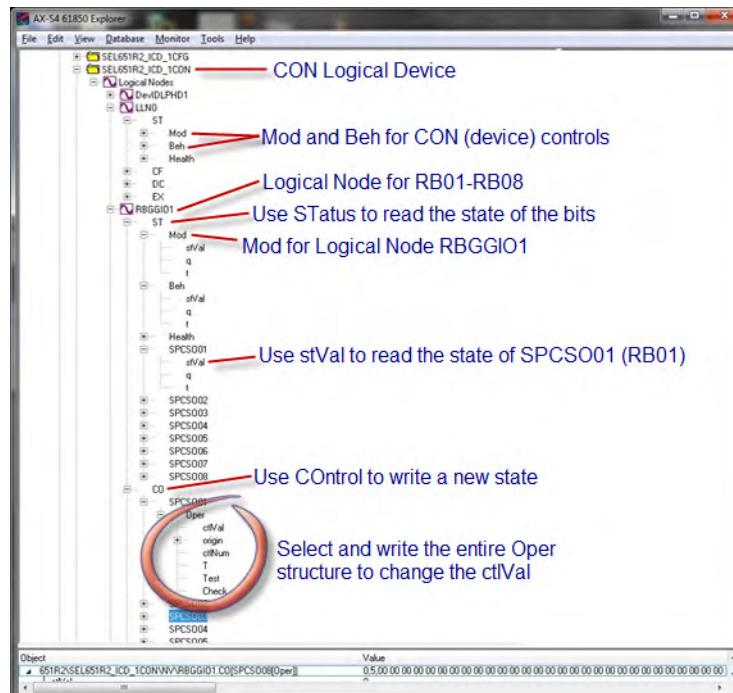

Figure F.5 MMS Client View of the CON Logical Device
When writing controls, the client must select and write the entire Oper, SBOw or Cancel structure to the device. See *Figure F.5* for the attributes of the CON logical device and the ST and CO functional constraints (FC) of LN RBGGIO1 used for controls of RB01 through RB08.